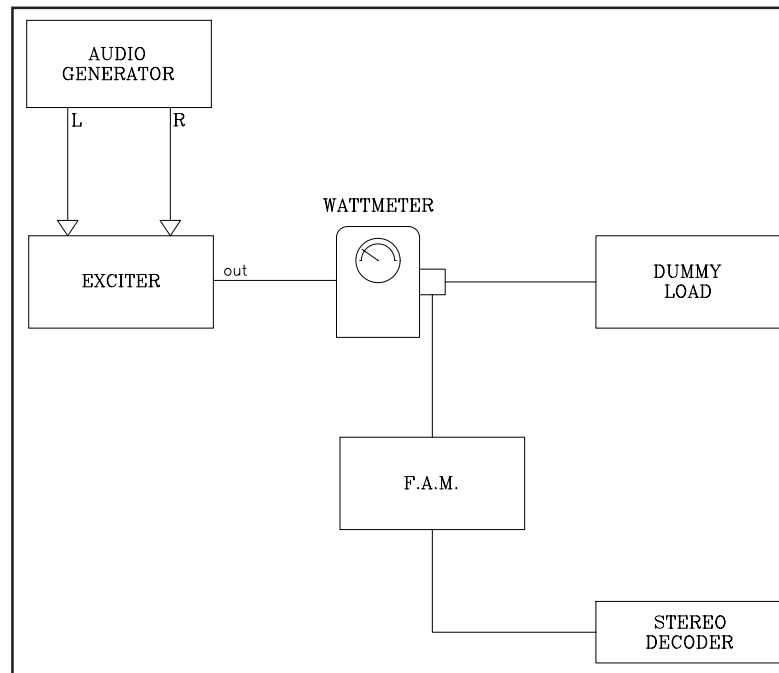

figure 10.1
After changing a stereo coder board it's necessary to make the following checks and adjustments (see figure 10.1):
- After inserting the main card and the relative connectors proceed as follows (figure 10.1):
- See figure 10.1, than connect the RF output to a dummy load.